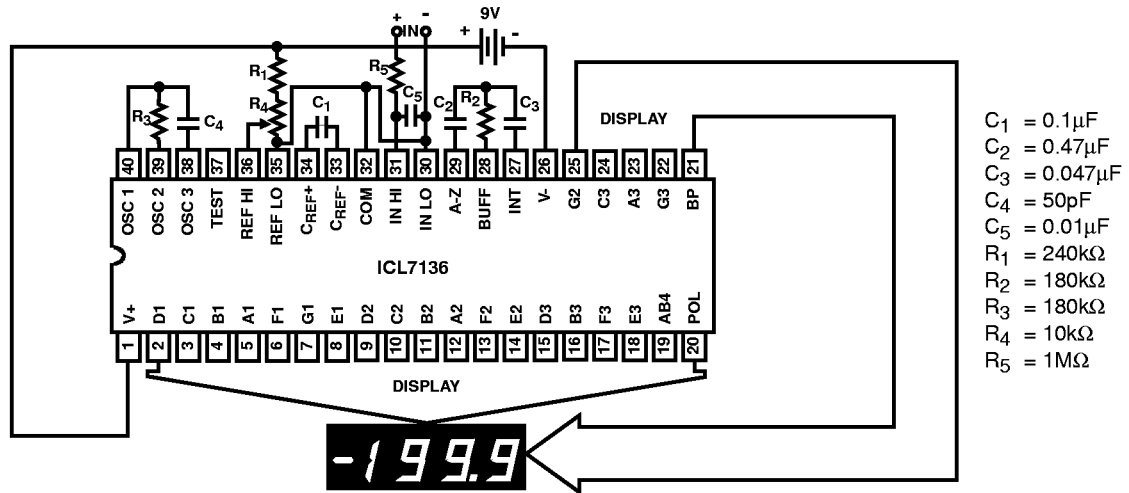
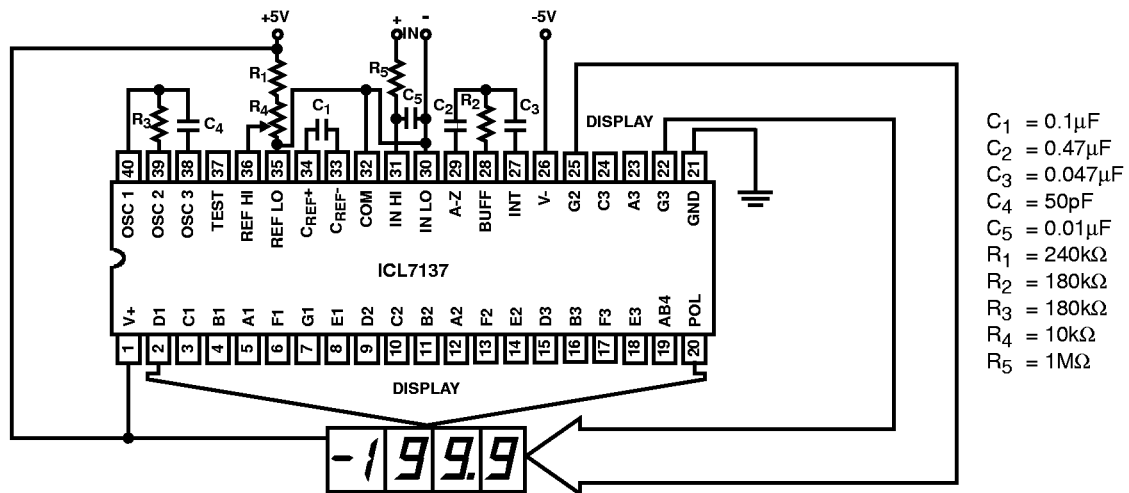

FIGURE 1. ICL7136 TEST CIRCUIT AND TYPICAL APPLICATION WITH LCD DISPLAY COMPONENTS SELECTED FOR 200mV FULL SCALE
FIGURE 2. ICL7137 TEST CIRCUIT AND TYPICAL APPLICATION WITH LED DISPLAY COMPONENTS SELECTED FOR 200mV FULL SCALE
- Unless otherwise noted, specifications apply to both the ICL7136 and ICL7137 at $T_A = 25^\circ\text{C}$, $f_{\text{CLOCK}} = 48\text{kHz}$. ICL7136 is tested in the circuit of Figure 1. ICL7137 is tested in the circuit of Figure 2.